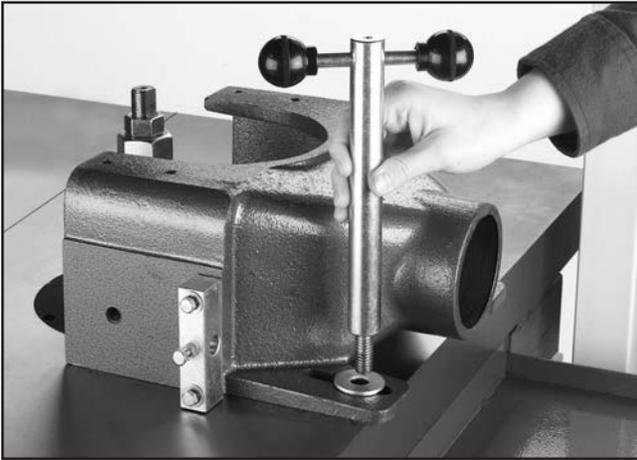

Figure 12. Inserting shaft guide into guard.
2. Insert the shaft guide into the guard as shown in **Figure 12**, and thread the shaft guide clockwise to secure the guard to the table.